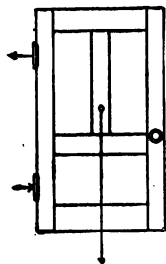

FIG. 277
**292. Sagging of Doors.** Doors are usually supported by two hinges, on the side, one near the top and the other near the bottom. The weight of the door acts downwards at its center of gravity (Fig. 277). The upper hinge must